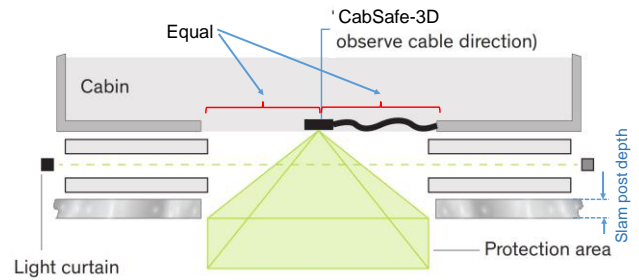
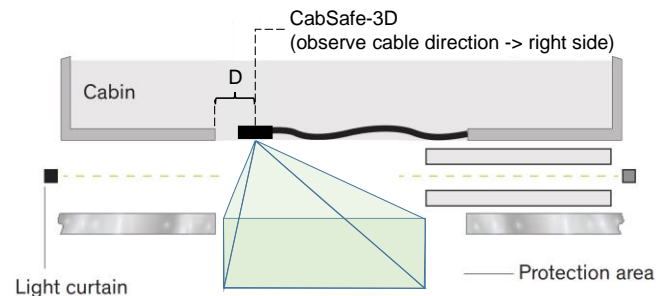
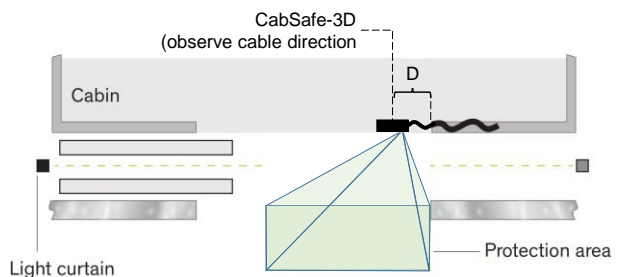

Figure 23: Mounting location and orientation - center opening door
Figure 24: Mounting location and orientation –sensor mounted on left side
Figure 25: Mounting location and orientation – sensor mounted on right side
- The CabSafe TDL (Tall Door Left) must be installed on the left side of the elevator door entrance when looking from the hallway to the cabin (Figure 24).
- The CabSafe TDR (Tall Door Right) must be installed on the right side of the elevator door entrance when looking from the hallway to the cabin (Figure 25).
- A. Cable must exit right when looking into the elevator cabin (Figure 23, Figure 24, Figure 25)
The sensor located near the slam post (strike jamb) and a minimum distance from the slam post (strike jamb) must be maintained; see Figure 24 and Figure 25 for details.